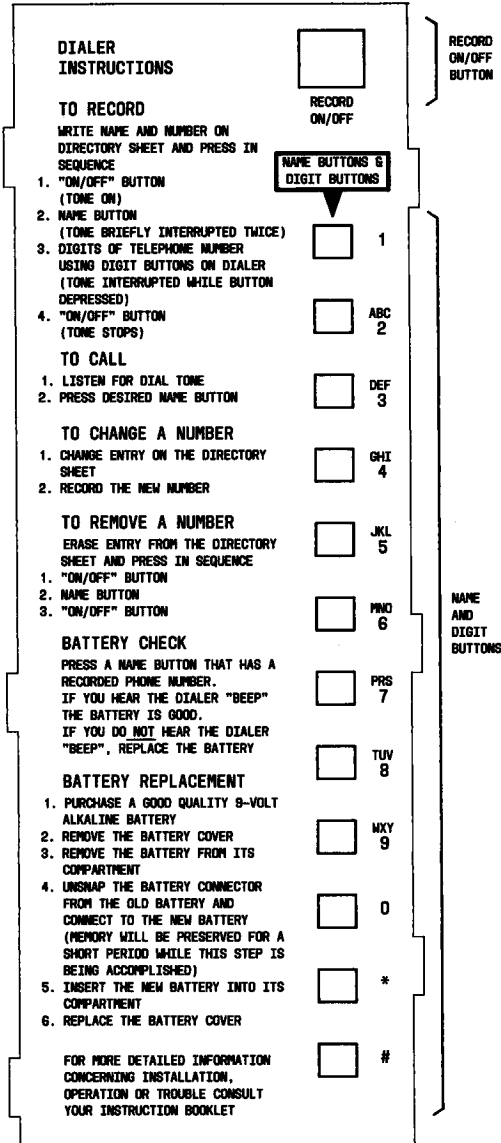

Fig. 4—Instruction Label
- 5.02 The battery is to be replaced by the customer. Refer to instruction label (Fig. 4) or Customer Instruction Booklet (CIB-2506) for detailed testing and replacement procedures.